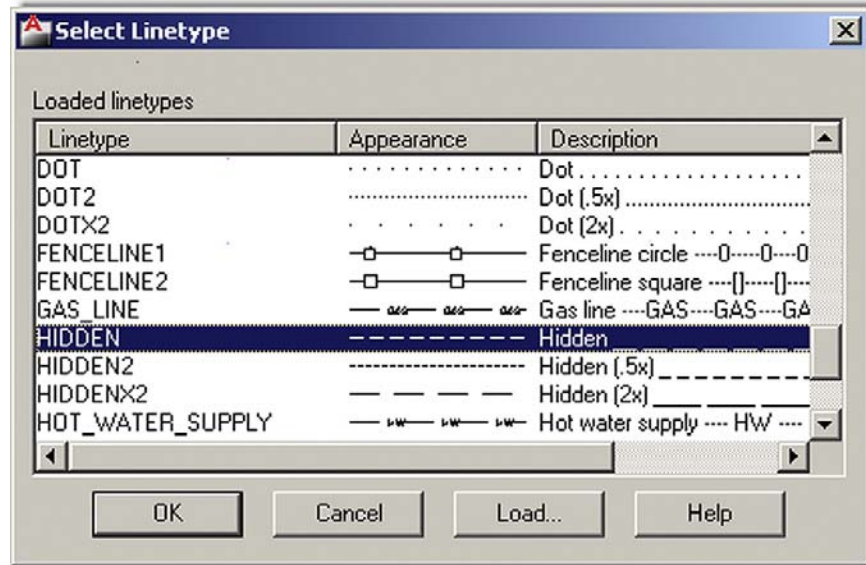

FIGURE 3.7
- Step 4.** Click on the word *Continuous* and the Select Linetype (Figure 3.7) dialog box comes up with all your linetypes preloaded. If we did not load them earlier, the box would have been practically empty and we would have had to do the loading at that point.